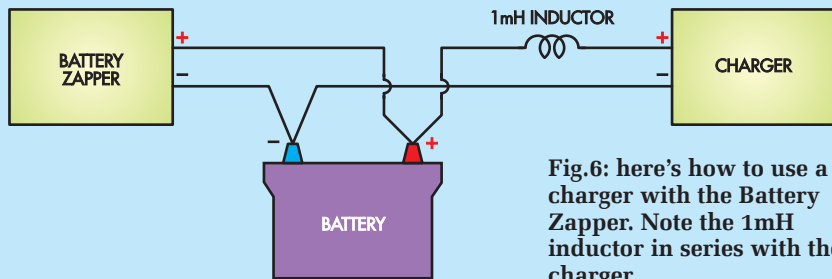

Fig.6: here's how to use a charger with the Battery Zapper. Note the 1mH inductor in series with the charger.
There's only one qualification: if the battery is already so discharged that it can't supply the 50mA or so needed to operate the zapper, you'll need to connect a conventional trickle (or low-current) charger to the battery as well – at least to get the rejuvenation process started (see Fig.6). And if the battery is very badly sulphated as well, you'll have to keep the charger connected for quite a while.
1mH air-cored inductor (the same as L2) in series with one of the charger's leads (see Fig.6). There are two reasons for this: (1) to protect the output circuitry of the charger from possible damage; and (2) to prevent the charger's relatively low output impedance from shunting the pulses, thereby reducing their effectiveness.